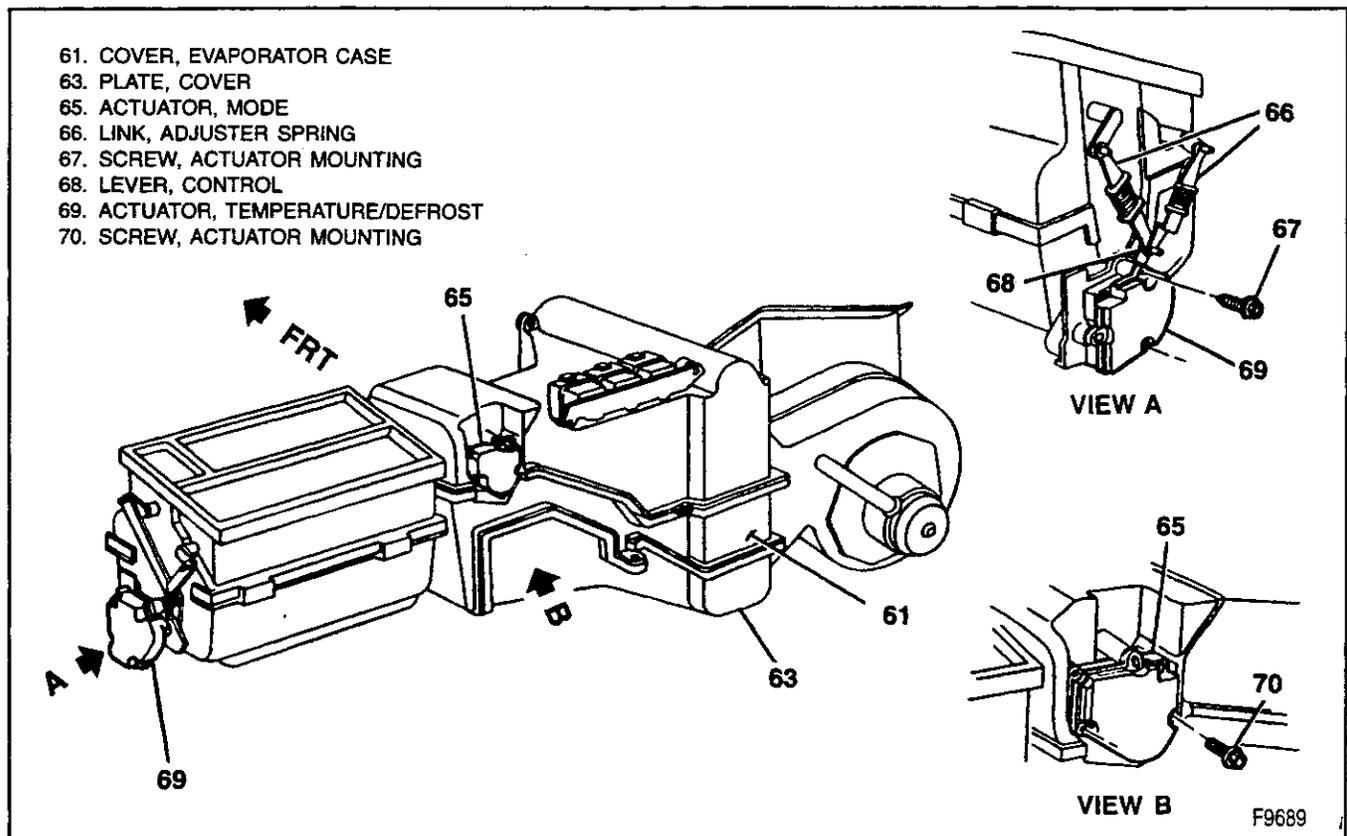

Figure 38—Temperature/Defrost and Mode Actuator
Remove or Disconnect (Figure 38)
**Install or Connect (Figure 38)**
1. Temperature/defrost actuator (69).
2. Screws (67).
3. Adjuster links (66) to control lever (68).
**Remove or Disconnect (Figure 38)**
4. Screws (70).
5. Mode actuator (65).
1. Mode actuator (65).
2. Screws (70).